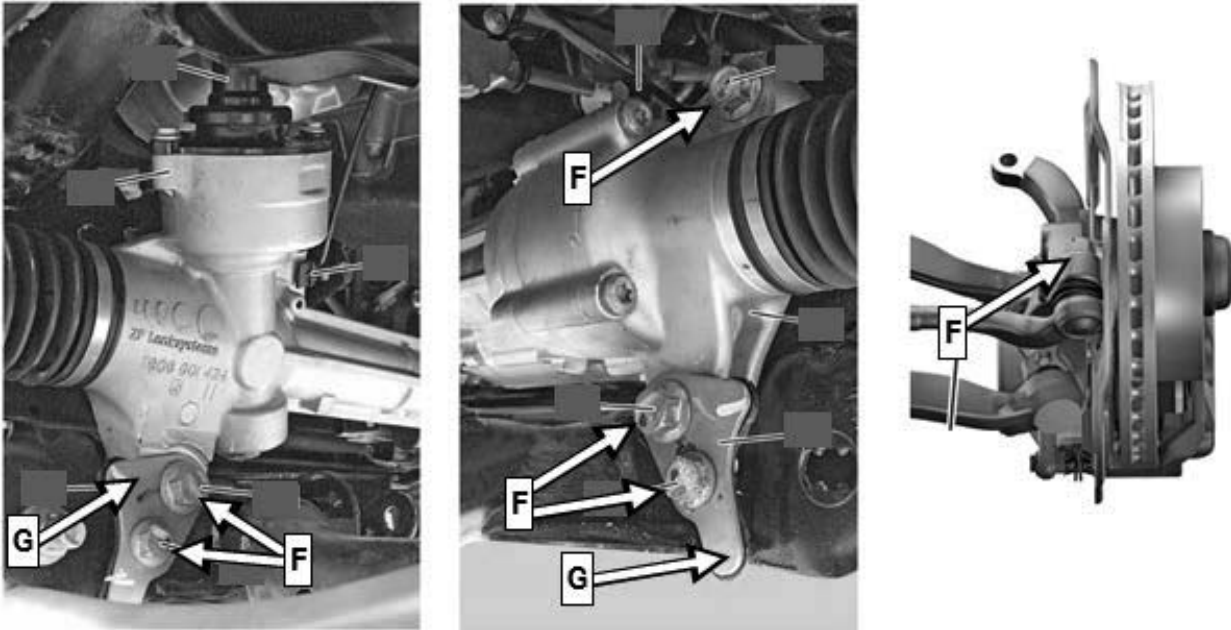

Figure 6
3. Unscrew steering from front axle carrier and tie rods at the steering knuckles (**F**, **Figure 6**).
- i** Remove retaining plates (**G**, **Figure 6**).